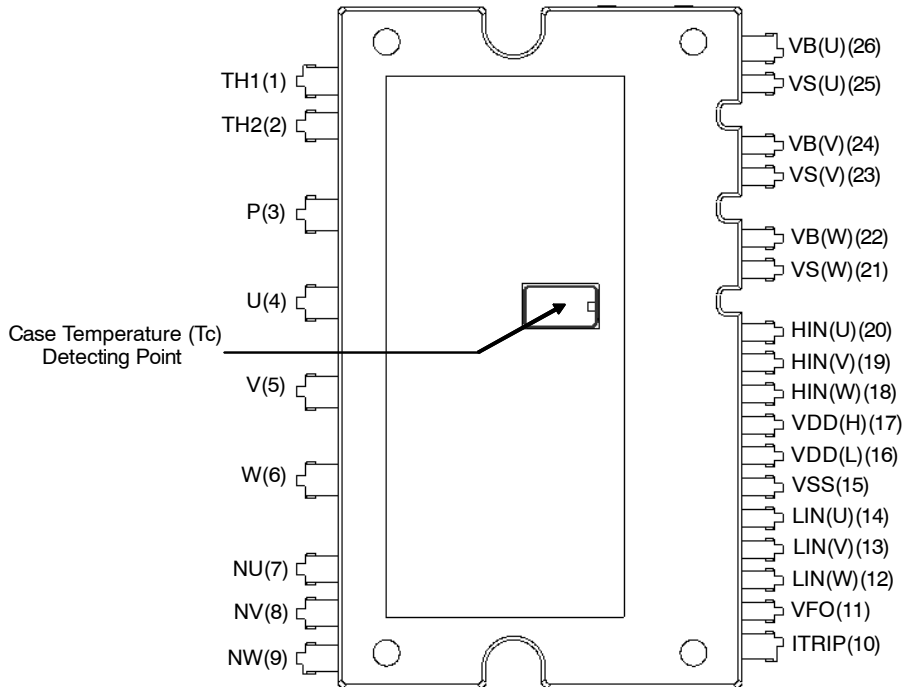

Figure 1. Top View
5. For the measurement point of case temperature T_C, please refer to Figure 1.